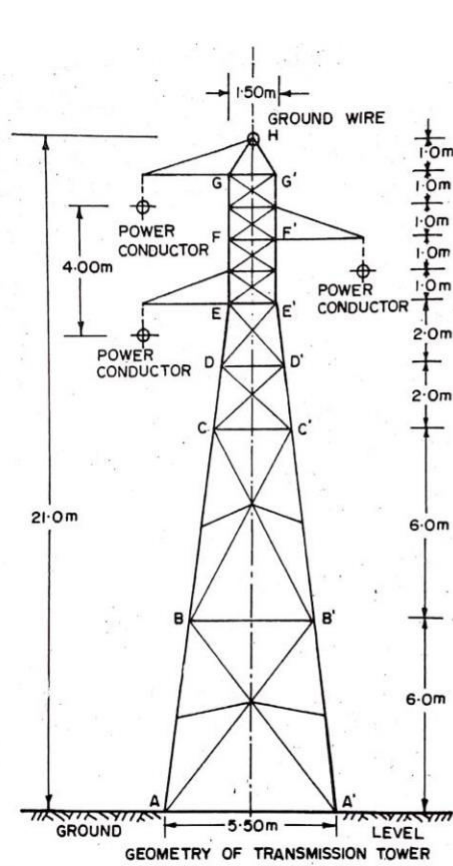

Figure 1
9. Steel tower as shown in figure 1 is to be connected for a transmission line for a single circuit 3 phase 5 cycle per sec(cps) to transmit 50 MW at 0.75 power factor for 259 KW, determine the